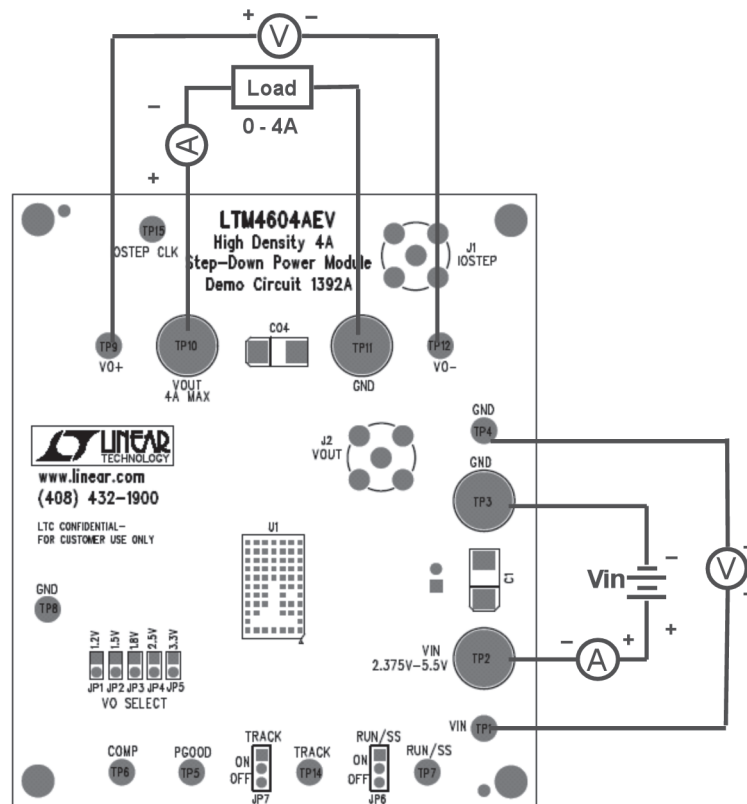

Figure 1. Test Setup of DC1392A
Demonstration circuit 1392A is an easy way to evaluate the performance of the LTM4604AEV. Please refer to Figure 1 for proper measurement equipment setup and follow the procedure below:
2. With power off, connect the input power supply, load and meters as shown in Figure 1. Preset the load to 0A and V_{IN} supply within the operating range of the LTM4604A.